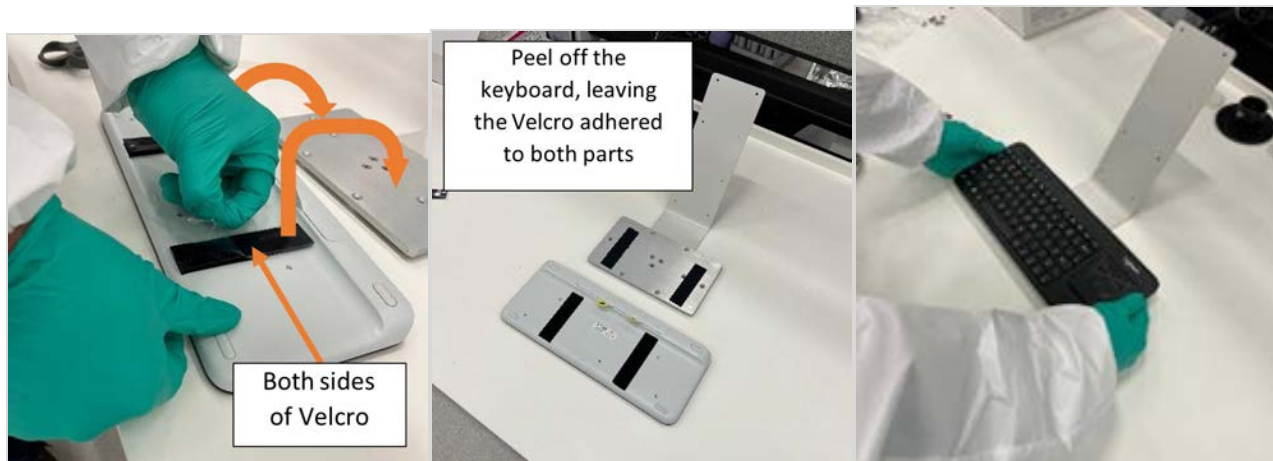

Figure 8: Mounting the Wireless Touch Pad Keyboard
- The wireless touch pad keyboard is connected to the tray below the AIO via Velcro on the back of the keyboard (Fig. 8).